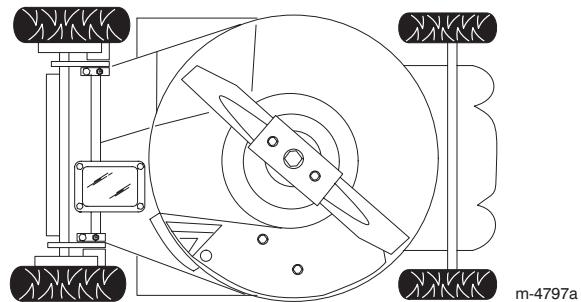

Figure 17
4. Tip the lawn mower onto its *left* side (Fig. 17).